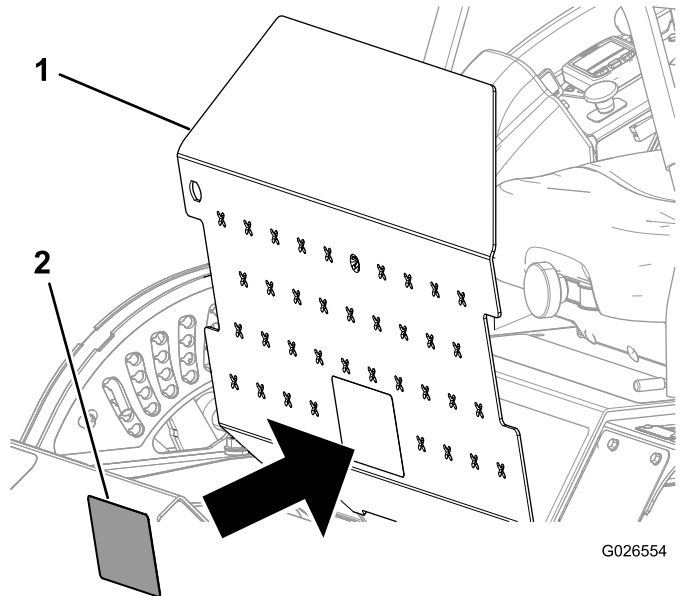

Figure 7
5. Pivot open the floor plate (Figure 7).
6. Affix the new belt-routing decal over the existing decal (Figure 7).